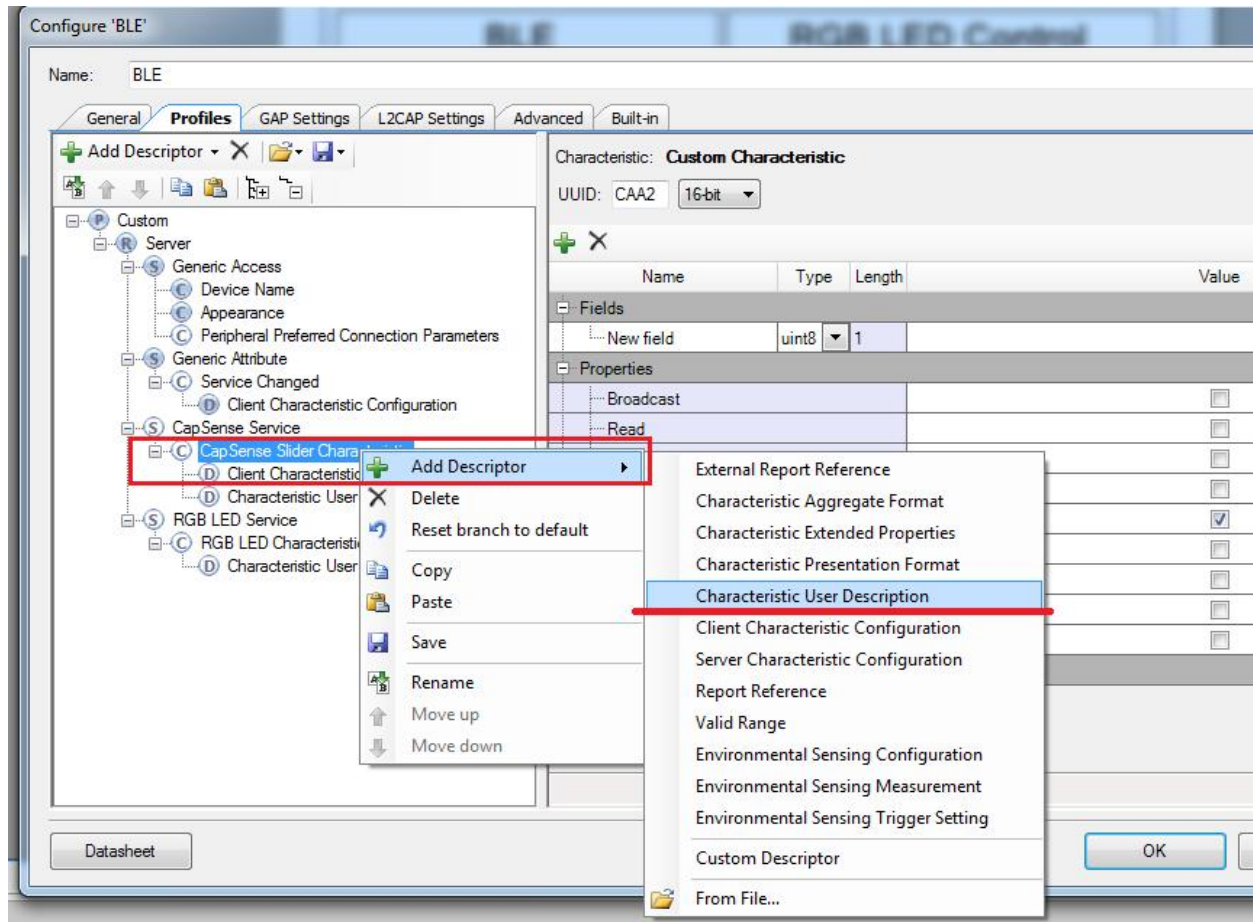

Figure 5: Add Descriptor for the CapSense Service
- f. Click on the **CapSense Slider Characteristic**, and using the **Add Descriptor** drop down on the top, add the **Characteristic User Description Descriptor**. See Figure 5.